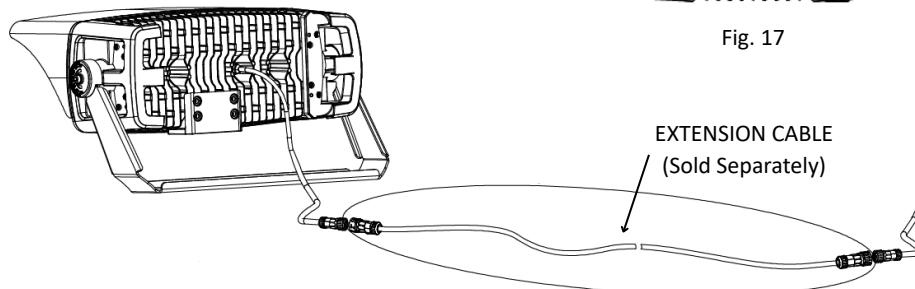

Fig. 19
5. Connect the fixture to the driver box with an extension cable (Fig. 19).